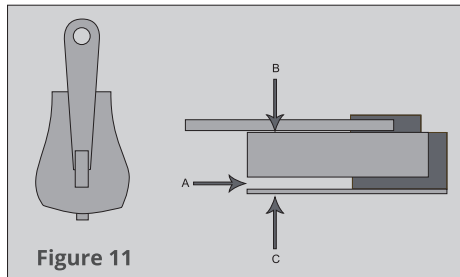

Figure 11
See Figure 11
**See Figure 11.**
By simply 'crimping' the slider together at points B & C with a pair of pliers, this solves the problem most of the time. Crimping in other planes is worth a try if B & C does not work. This is to be done when the zip slider is still attached to the zip in the open position. **See Figure 11.**